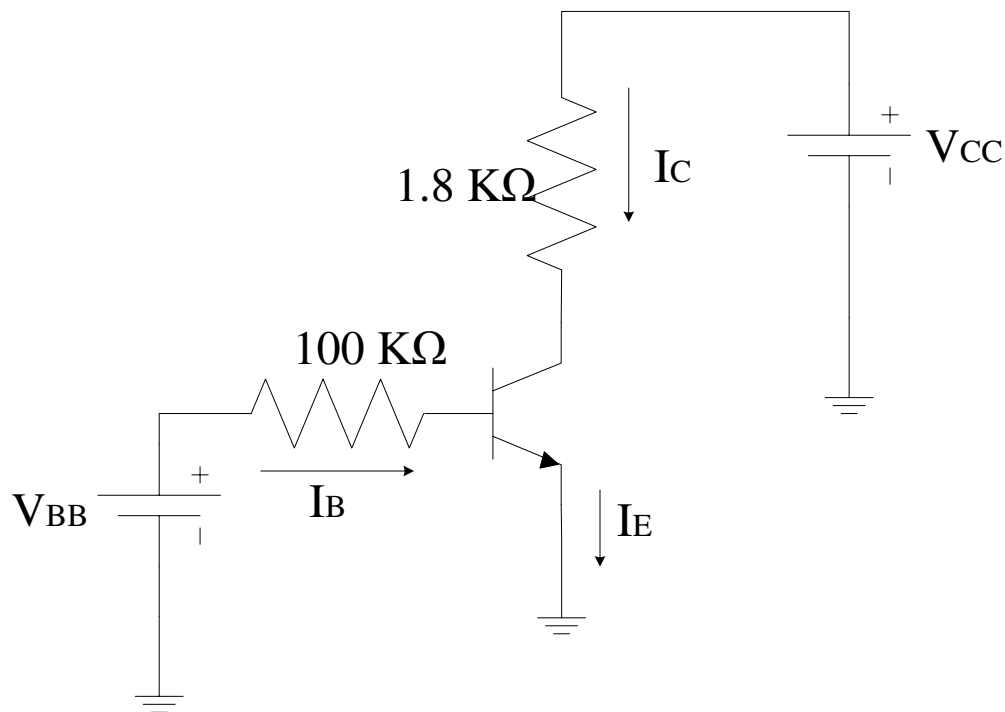

Figure 1 Circuit diagram for measuring I-V characteristics of Transistor
2. Construct the circuit as shown in the figure 1. Use DC power supply for V_{BB} and 0-15 V variable DC voltage from trainer board for V_{CC} . Connect the micro-ammeter in the base circuit and milli-ammeter in the collector circuit. Make sure to connect the ammeters with the correct polarity.